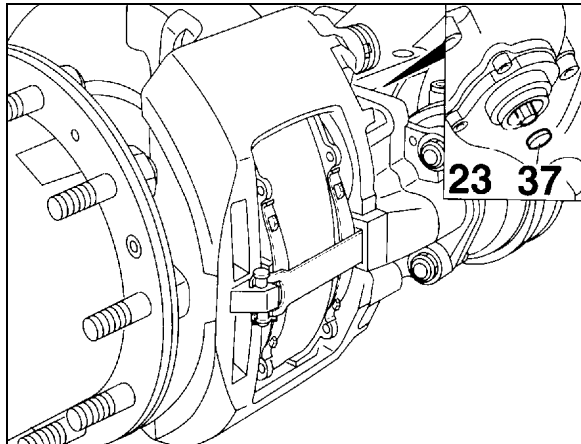

FIGURE 28: ADJUSTER PINION 12120
- b) Using a box wrench (8 mm), turn the adjuster pinion (23, Fig. 28) counterclockwise about 2 - 3 clicks to increase running clearance. By operating the braking system about 5 - 10 times (30 PSI or 2 bar), the wrench should turn clockwise in small increments if the adjuster is functioning correctly (Figs. 28 and 29).